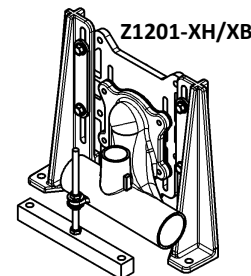

Figure 6b
- For Z1201-XH/XB, see **Figure 6b**.